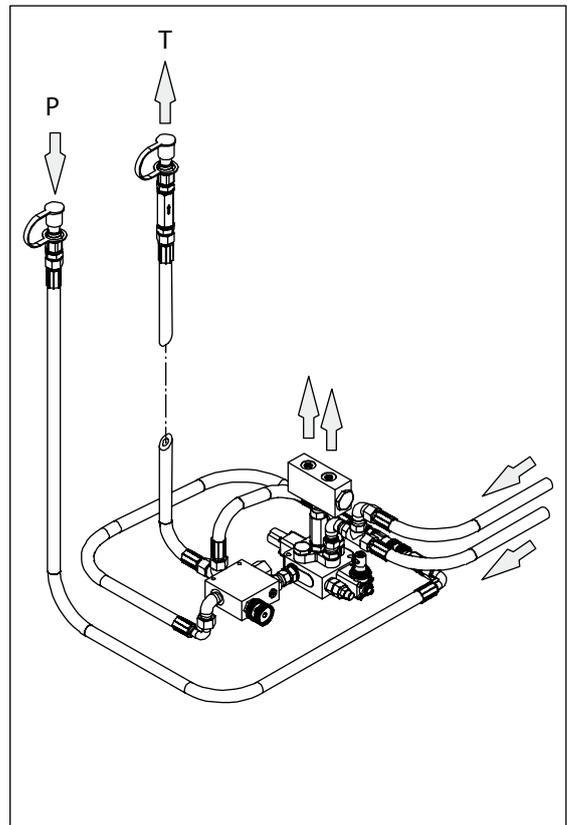

Fig. 5. Connecting the hydraulics, feed
5. Connect the hydraulic hoses. Connect the pressure hose (P on the valve) to the pressure connector of the tractor's hydraulic system. The maximum operating pressure is 175 bar. Connect the return hose (T) to the return connector of the double-acting valve, or preferably directly to the tank. Fig. 5.